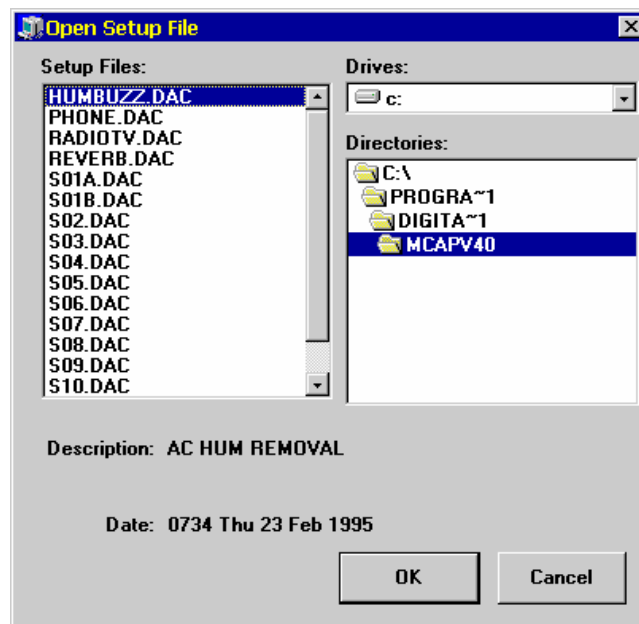

Figure 4-65 Recall Setup File Window
1. Click on **File** on the Master Control menu bar. When the pulldown menu appears, click on **Open Setup File**. This will cause the following window (Figure 4-65) to appear: